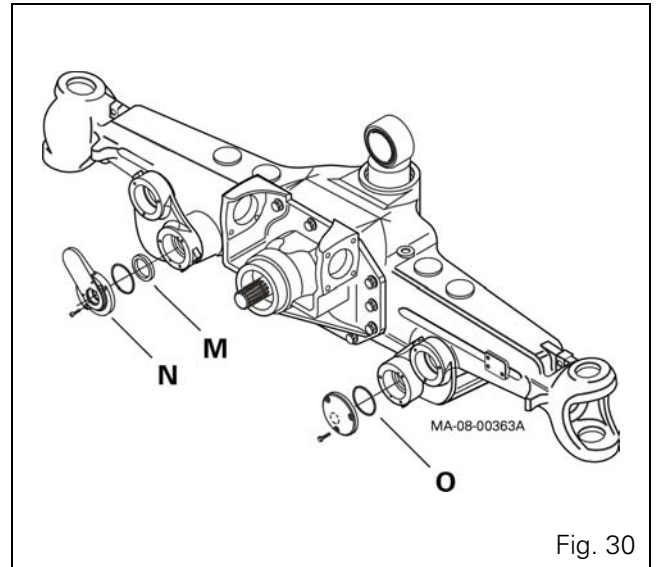

Fig. 30
- Fit the arm pin covers and the sensor plate, fill their housing with grease and tighten the relevant attachment screws to the required torque (see section 8A01§ A) (Fig. 30).